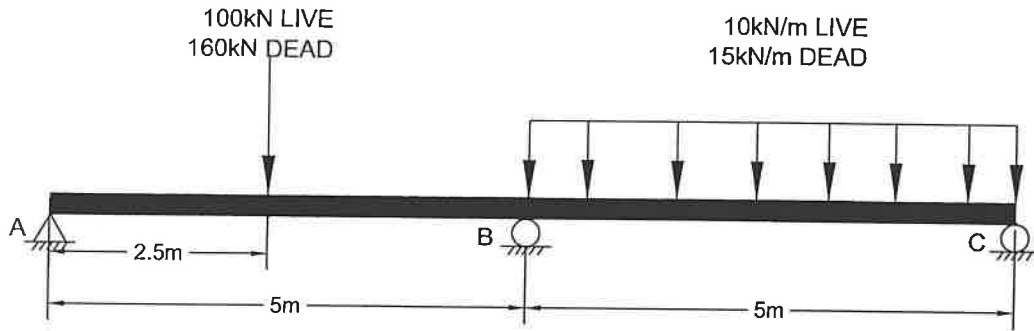

FIGURE 1
**Part A (Do TWO (2) of three (3) questions)**
- A1. For the beam shown in Figure 1 determine the most appropriate beam section for each span (not to be the same) and provide a full moment connection detail to be applied at point B. Beams do not need to be the same depth.